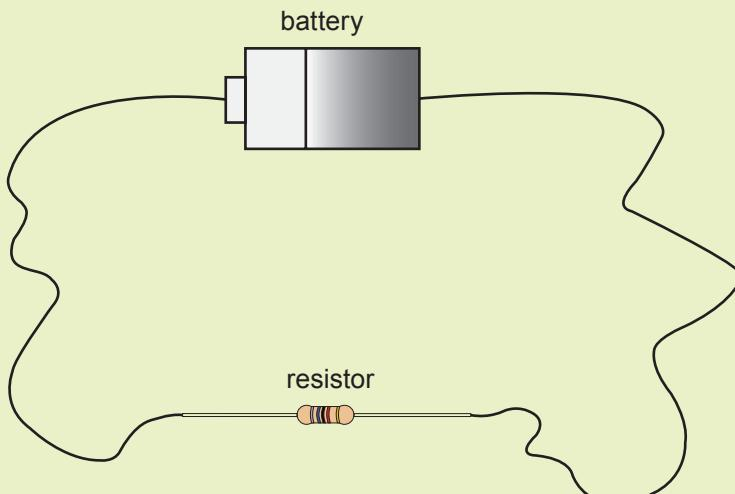

Figure 3.4
3. Figure 3.4 shows a circuit built using unnecessarily long wires. Explain why this is not a good practice.